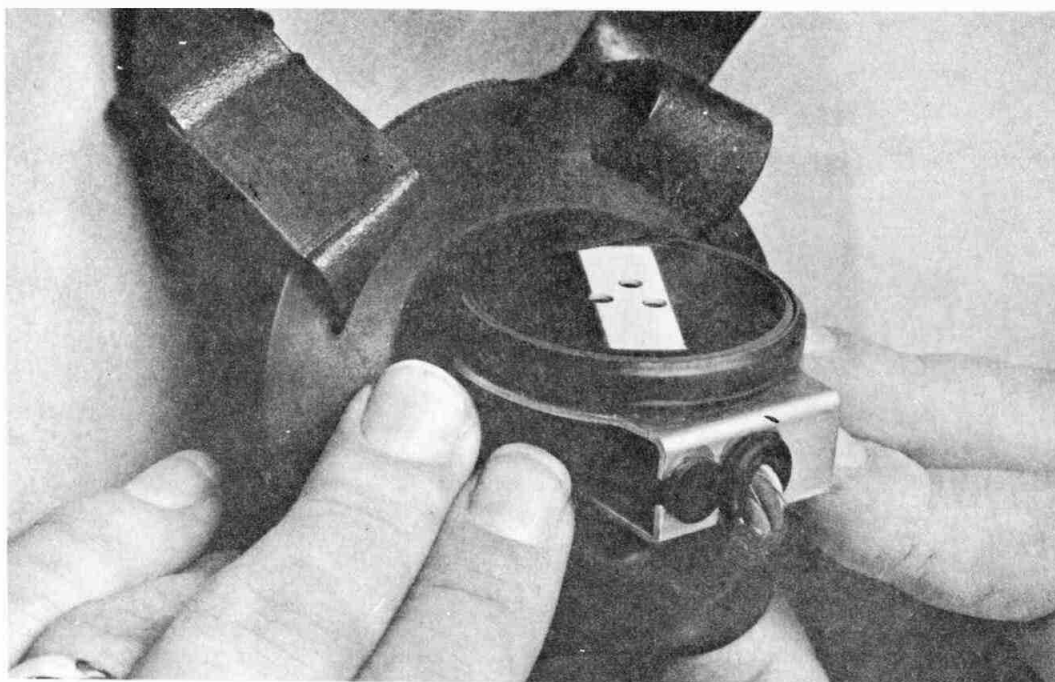

Fig 4 - Removing the moulding (2)
- b. The moulding should be 'rolled' back to the position indicated in Fig 4.